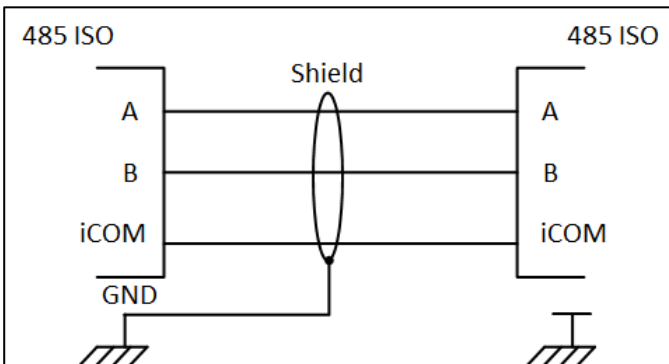

Figure 45: RS-485 Wiring
- There is no need to install an external 120 Ohm termination resistor in the controller; place a Jumper on the communication card at the unit located at the end of chain (Figure 45).